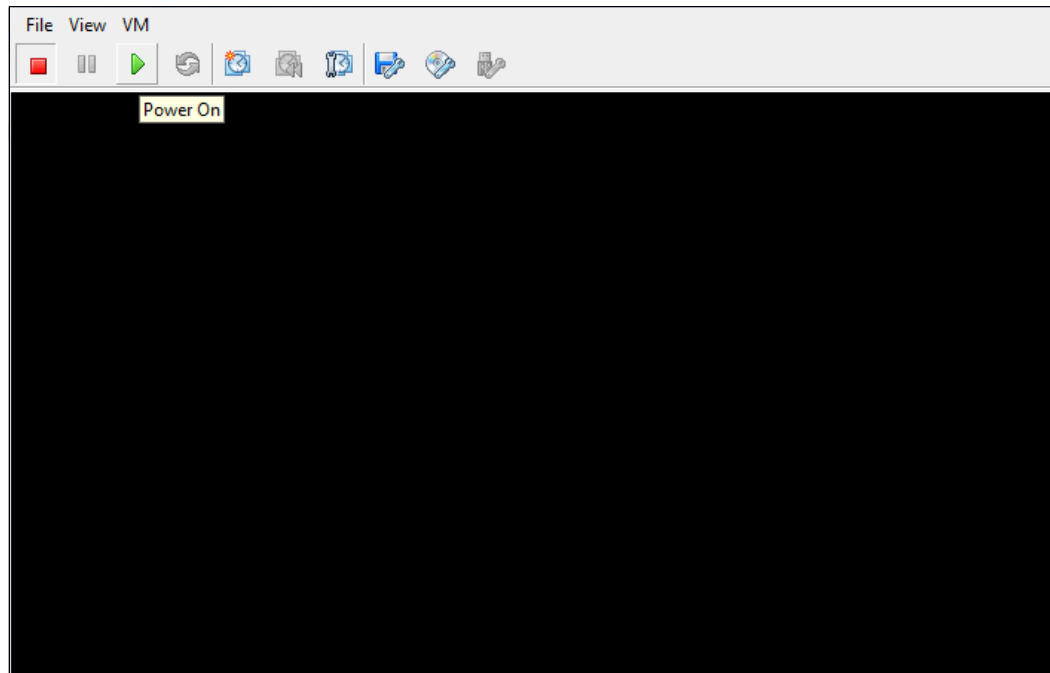

Figure 3-20 Power On the VMware VM
18. When the console is open (Figure 3-20), click **Power On** icon (green triangle), and click in the console display to interact with the VM. The HMC Install Wizard is now available.